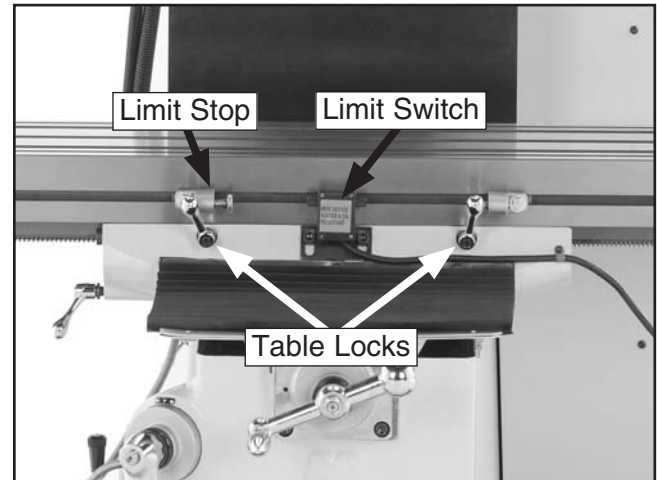

Figure 24. Example of table locks, limit switch, and limit stop.
1. Loosen the table locks (see **Figure 24**).